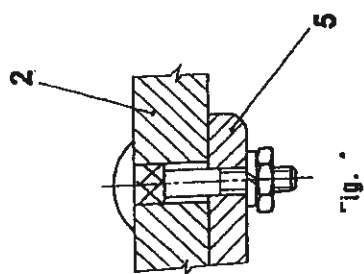

Fig. 2
### 5.1 Assembly of stand table top (Fig. 2, 3, 4, 5)
Put the rubber inserts for placing the machine head into the stand table top into the recess (2 and 3, Fig. 5). For better fastening, we recommend to stick on the inserts. When mounting the tray (1, Fig. 2) be sure in maintaining the distance "X" on the whole perimeter of the tray between the interior of the tray and the perimeter of the stand table top recess (2).